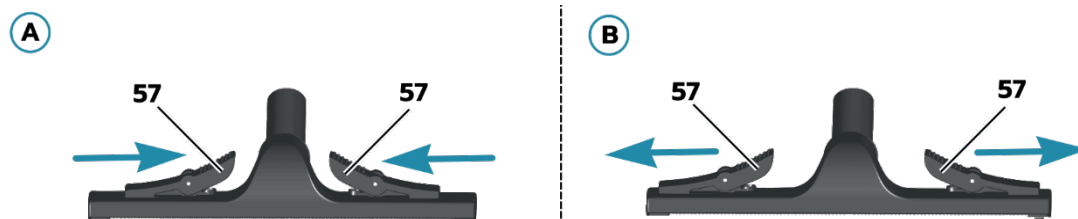

Figure 3.3-8 Open and close the attachment
- ➔ Open lock: See Figure 3.3-8 Open and close the attachment.
- ➔ Close lock: See Figure 3.3-8 Open and close the attachment.